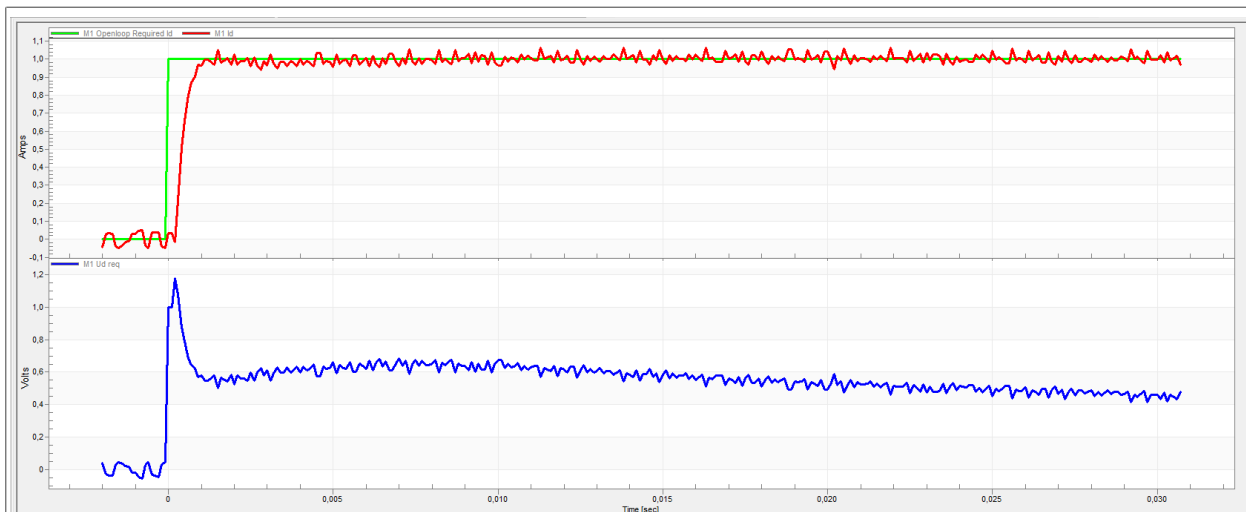

Figure 32. Optimal step response of the Id current controller
- The loop bandwidth (300 Hz) is optimal and the response time of the Id current is sufficient (Figure 32).